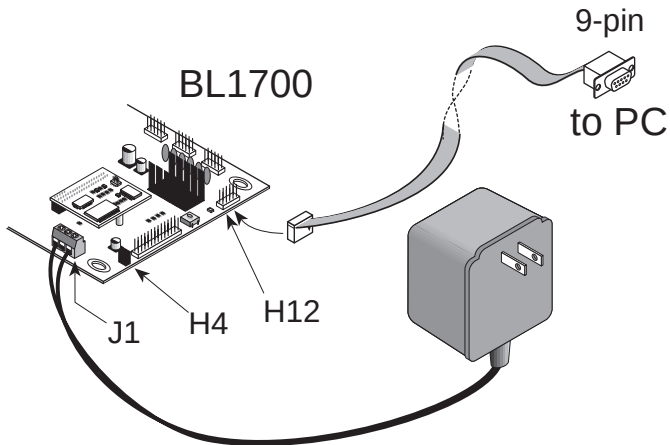

Figure 2-1. BL1700 Programming Connections
2. Connect the 10-pin programming cable from H12 on the BL1700 to the appropriate COM port of your computer as shown in Figure 2-1. Make sure that pin 1 on the ribbon cable connector (indicated by a small triangle on the connector) matches up with pin 1 on H12 (indicated by a small white circle near the corner of the connector).